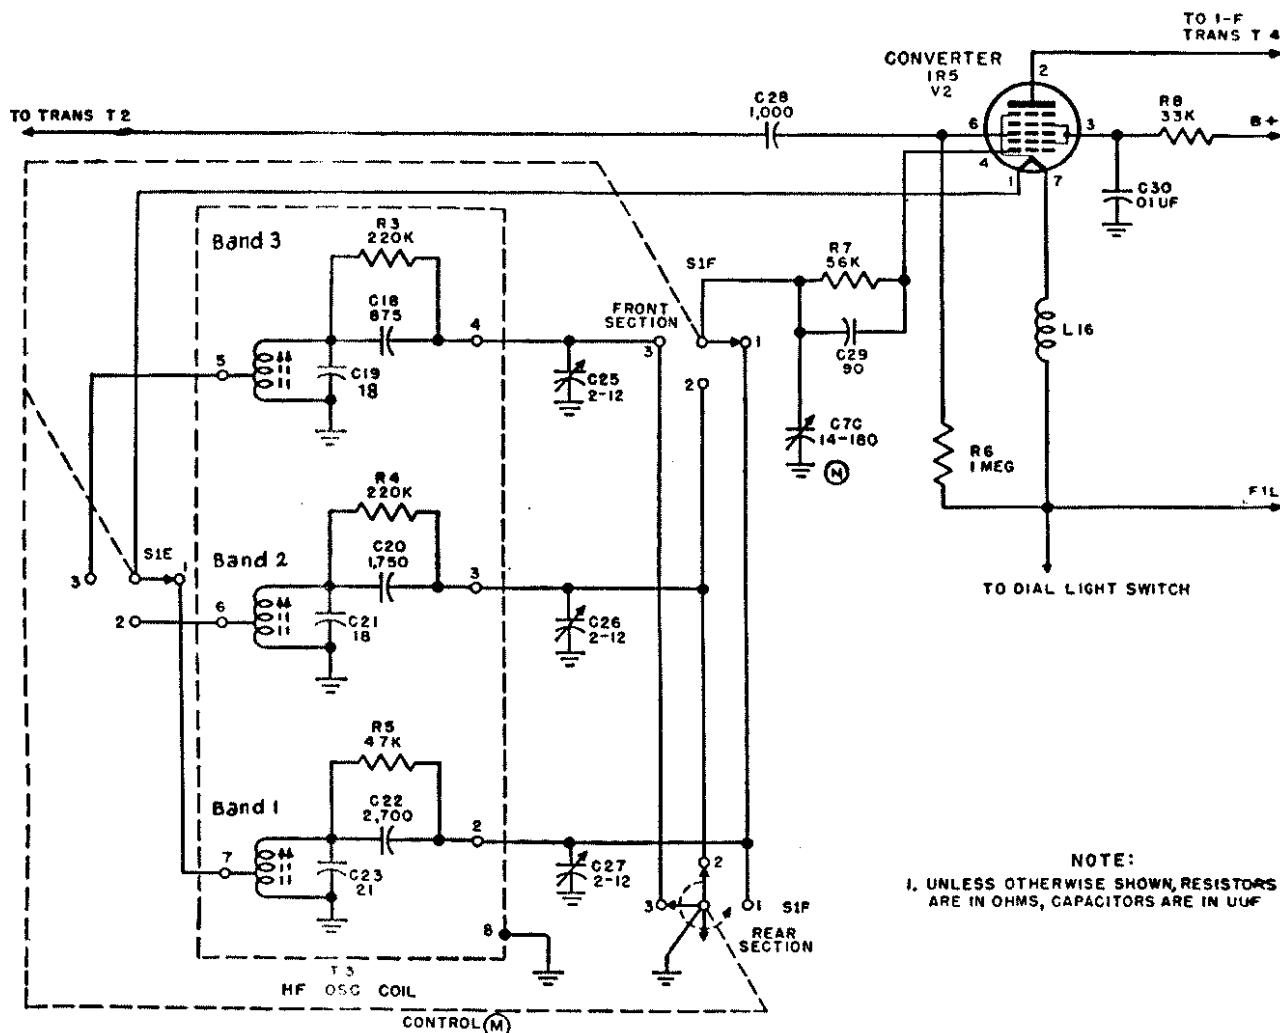

Figure 58. Converter stage, simplified schematic.
81. Converter Stage V2 (fig. 58)